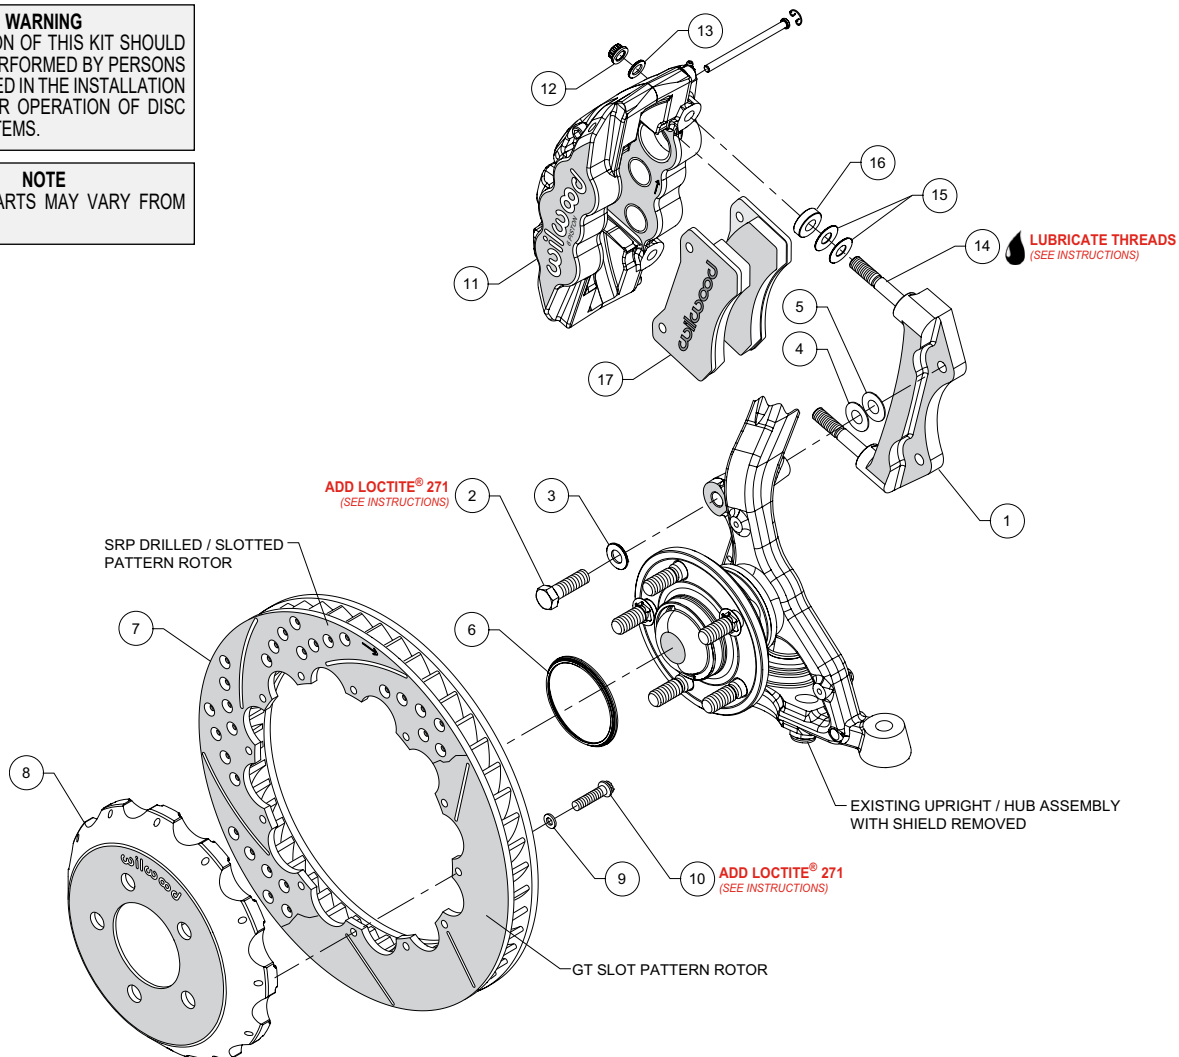
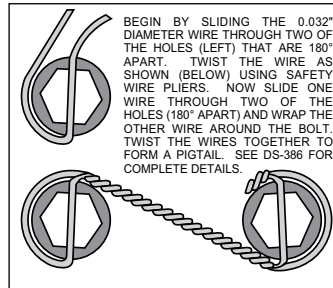

Figure 1. Typical Installation Configuration
Figure 3. Safety Wire Diagram
**Assembly Instructions** (numbers in parenthesis refer to the parts list and Figure 1 on the preceding pages):
- The caliper mount bracket (1) should initially be installed with clean, dry threads on the mounting bolts. Orient the bracket as shown in Figure 1 and Photo 1 and install using mount bolts (2) and washers (3). Initially place one each .033" thick shim (4), and .015" thick shim (5) on each bolt between the bracket and upright, Figure 1. Temporarily tighten the mounting bolts. **NOTE:** The bracket must fit squarely against the mount bosses on the upright. Inspect for interference from casting irregularities, machining ridges, burrs, etc. Later, after the caliper alignment has been checked, the mount bolts will be secured using red *Loctite*® 271.
- Orient the rotor (7) and the hat (8) as shown in Figure 1 and Photo 2. Attach rotor to hat using bolts (10) and washers (9). Apply red *Loctite*® 271 to the bolt threads and torque to 155 in-lb using a criss-cross pattern. For an added measure of security, the bolts may be safety wired using standard 0.032 inch diameter stainless steel safety wire as shown in Figure 3. Please refer to Wilwood's data sheet DS-386 (available at [www.wilwood.com/Pdf/DataSheets/ds386.pdf](http://www.wilwood.com/Pdf/DataSheets/ds386.pdf)) for complete safety wire installation instructions.
- **NOTE:** This kit contains distinct right and left hand calipers that must be mounted in a specific direction, as described below. Lubricate the caliper mounting studs (14) with lightweight oil. Initially place two .030" thick shims (15) and spacer (16) on each stud between the caliper and the bracket, as shown in Figure 1 and Photo 4. Mount the caliper (11) onto the bracket (1) using lock nuts (12) and washers (13), Figure 1. Temporarily tighten the lock nuts. Ensure that the caliper is mounted so the largest pistons are at the rotor exit end of the caliper, in relation to the direction of the rotor. View the rotor (7) through the top opening of the caliper, Photo 5. If not, adjust by adding or subtracting shims (4 and/or 5) between the bracket and the upright. Always use the same amount of shims on each of the two mounting bolts. Once the caliper alignment is correct, remove the bracket mounting bolts one at a time, apply red *Loctite*® 271 to the threads, and torque to 65 ft-lb.
- Remove the two pad retaining pins from the caliper (11) by carefully popping out the pin retaining clips and sliding out the pins. Insert the brake pads (17) into the caliper from the bottom, Figure 1 and Photo 6. With the friction material facing the rotor, secure the brake pads in place with the pad retaining pins and clips, Photo 7. Reinstall the caliper onto the caliper mounting bracket and temporarily tighten the lock nuts. Check that the top of the brake pad is flush with the outside diameter of the rotor, Photo 8. If not, adjust by adding or subtracting shims (15) between the caliper and the bracket. After the caliper pad height is set, torque the caliper lock nuts (12) to 47 ft-lb.